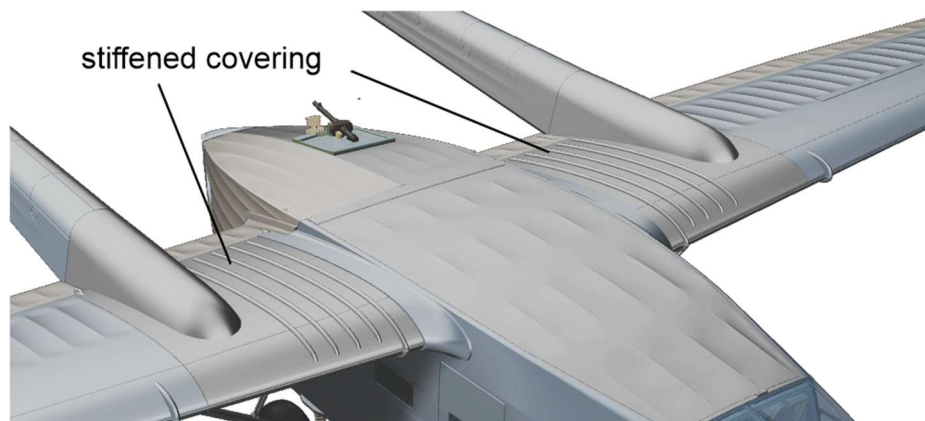

Fig. 1B
- On some machines stiffening of the wings added between fuselage and booms (Fig.1B)